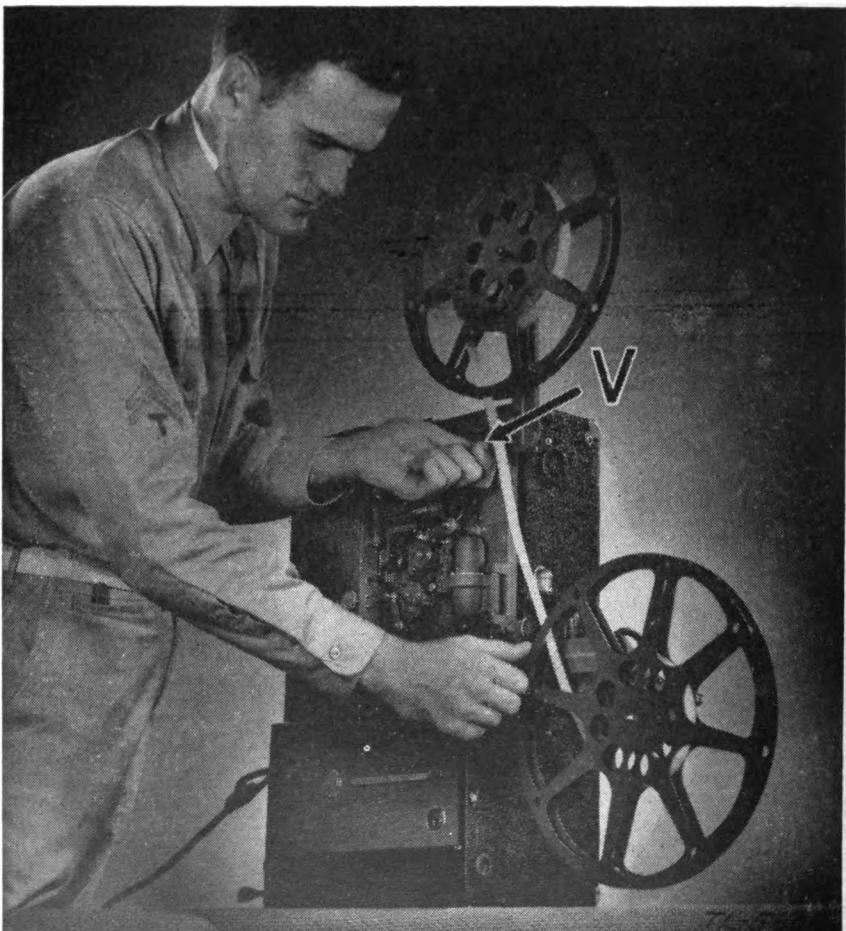

FIGURE 23.—Rewinding R. C. A. projector.
(4) *R. C. A.*—To rewind the R. C. A. projector, loop the free end of the film around the feed reel, turn rewind switch *V* to “Rewind” position, and start projector motor. (See fig. 23.)